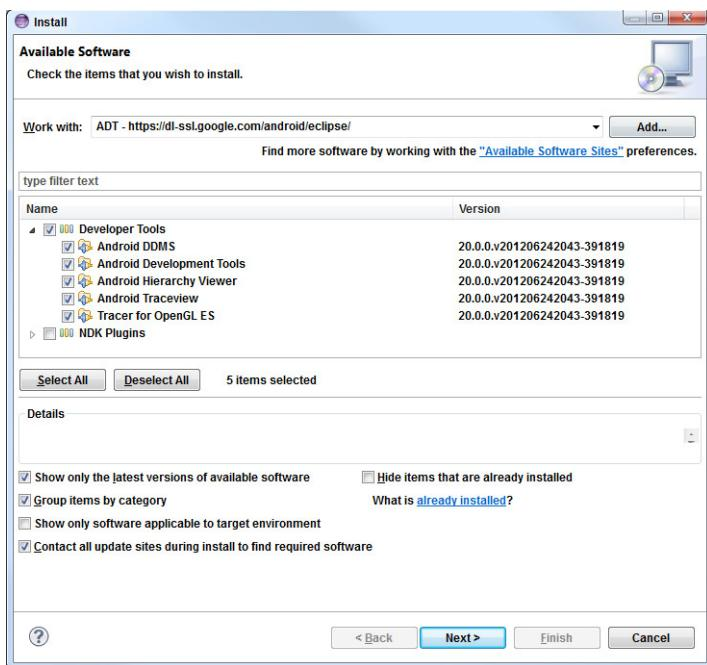

FIGURE 4-9: Select all of the Developer Tools.
- 3.** Make sure everything is selected inside Developer Tools, see Figure 4-9. You don't need the NDK unless you specifically want to make use of any native C libraries.